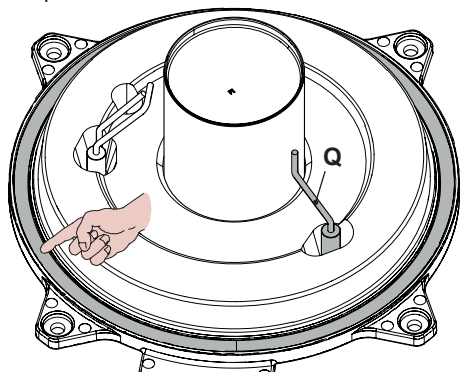

Fig. 10.9
- The silicon seal on the front wall of the combustion chamber Fig. 10.9 must be replaced if worn.
- The detection electrode **Q** in Fig. 10.9 also functions as a sensor for the correct drainage of the condensate.
**Caution:** After any periodical servicing or disturbance the combustion chamber silicon seal Fig. 10.9 must be fully inspected and replaced at the discretion of the service engineer.